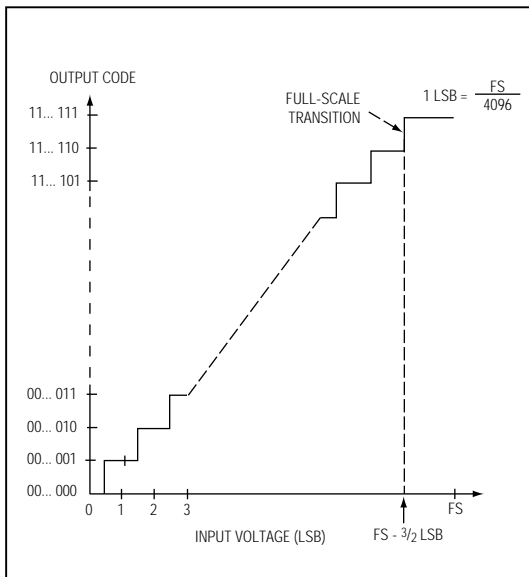

Figure 10. Unipolar Transfer Function
Output data coding for the MAX196/MAX198 is binary in unipolar mode with $1\text{LSB} = (\text{FS} / 4096)$ and two's-complement binary in bipolar mode with $1\text{LSB} = [(2 \times |\text{FS}|) / 4096]$. Code transitions occur halfway between successive-integer LSB values. Figures 10 and 11 show the input/output (I/O) transfer functions for unipolar and bipolar operations, respectively. For full-scale (FS) values, refer to Table 1.